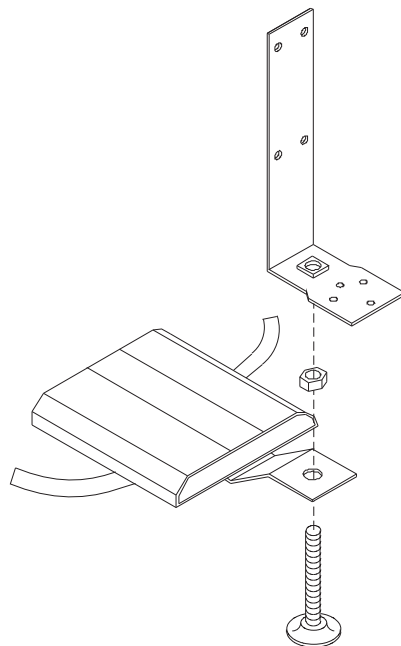

FIG. 1
6. Peel back all four ends of the two double stick tape strips on the bottom of the threshold about 2". The tape covers will be peeled off as a final step to help adhere the threshold to the floor (Figure 1).